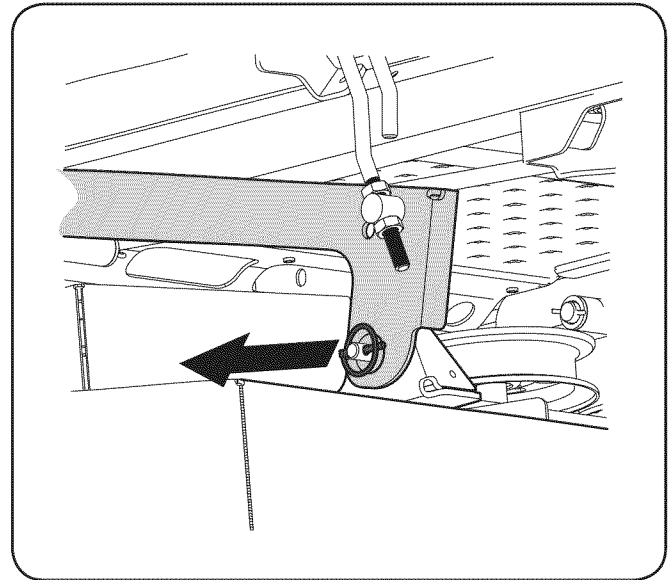

Figure 27
6. Locate the LH and RH deck release pins on each side of the deck. Pull the release pins outward and release the deck from the LH and RH deck lift arms. See Figure 27.
5. Pull the deck release pins outward and maneuver the deck as necessary to align the holes in the deck lift arms with the pins. Refer to Figure 27.